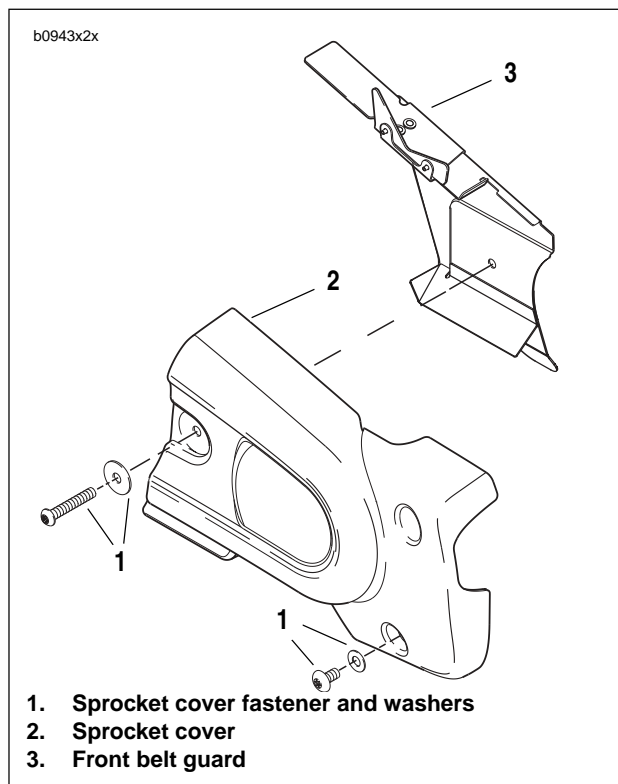

Figure 2-103. Sprocket Cover
2. See Figure 2-103. Remove sprocket cover fasteners and washers (1).
1. See Figure 2-103. Position sprocket cover (2) over front belt guard (3) and front sprocket.
2. Install sprocket cover (2) using LOCTITE 222 on rear sprocket cover fastener (1) and tighten all fasteners and washers (1) to 12-36 **in-lbs** (1-4 Nm).